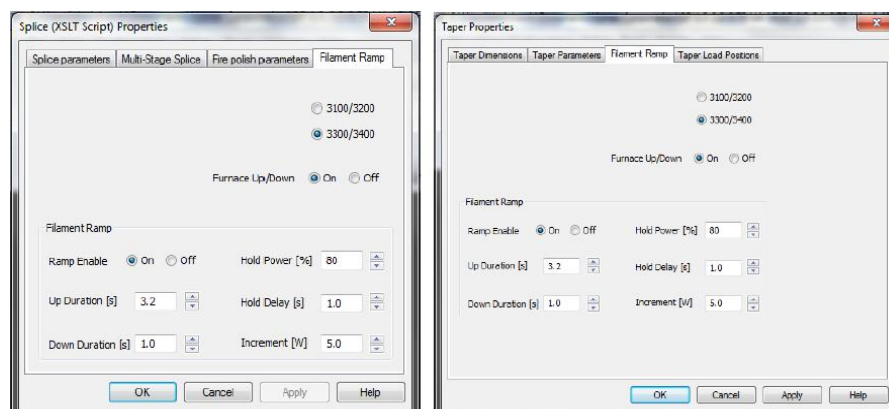

Figure 19 Filament Ramp Settings
- The default setup is shown in Figure 19.